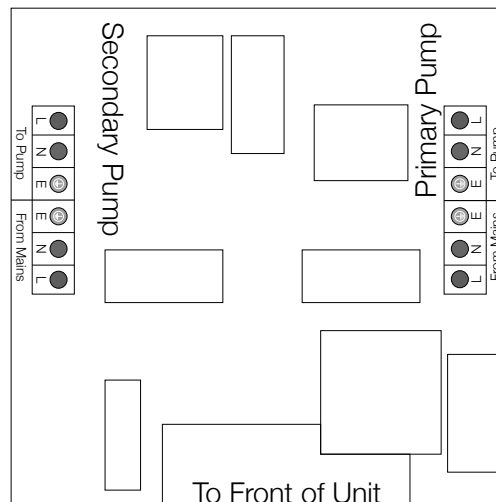

Figure 2. Wiring the lower circuit board - Hi-PowerMaxx2
7. Connect the supply to the 'From Mains' and the corresponding pump to the 'To Pump' (figure 2).